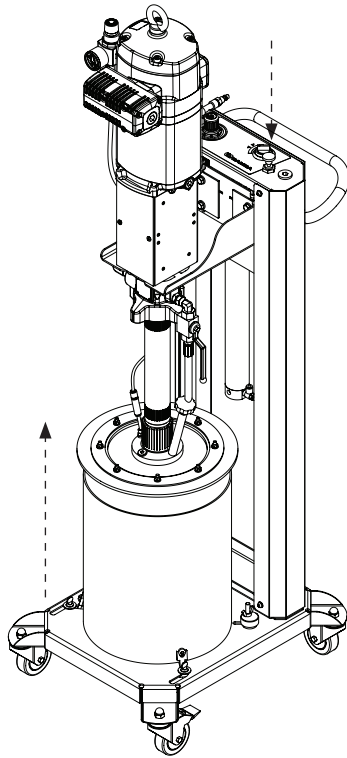

Fig. 11
- Press vacuum released valve so that air can enter underneath the follower plate to allow it to rise (Fig. 11).